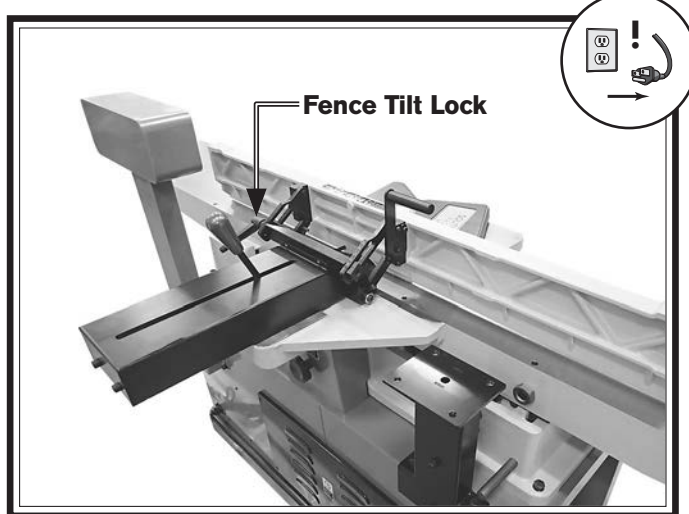

Figure 57. Fence tilt lock location.
2. Loosen fence tilt lock (see **Figure 57**).